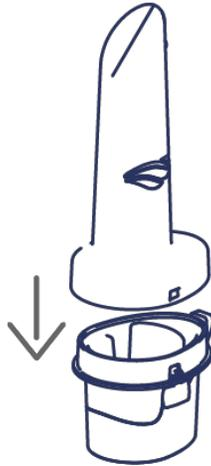

Figure 10 – Mist Stack to Mist Cup Assembly
- Carefully snap the Mist Stack onto the Mist Cup (Figure 10).